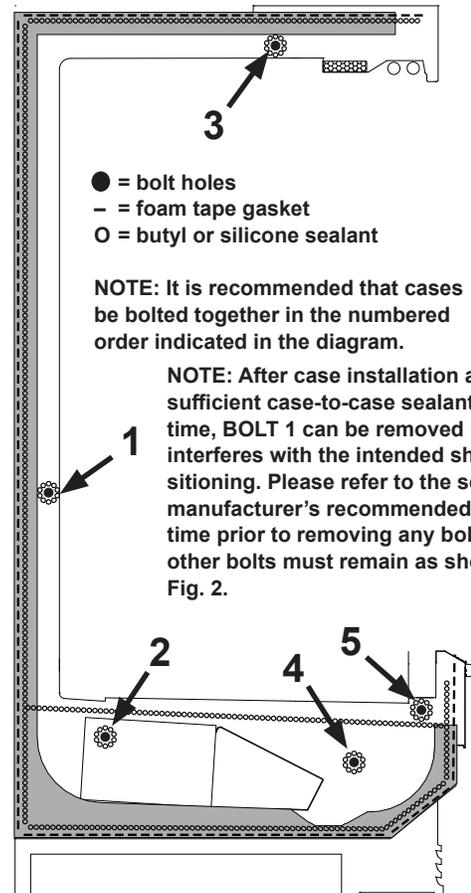

Fig. 2 Bolt holes, foam tape gasket, and sealant
4. Apply the foam tape gasket (supplied) and a bead of butyl or silicone sealant to the end of the first case (Fig. 2). From the opposite end, push the second case to a position that is approximately 6" from the first case, then remove the remaining casters and position case on the shim packs.
5. Push the cases tightly together, then lightly bolt them together through the holes that are provided (Fig. 2). Tighten all the joining bolts until all margins are equal. Be careful not to over tighten.